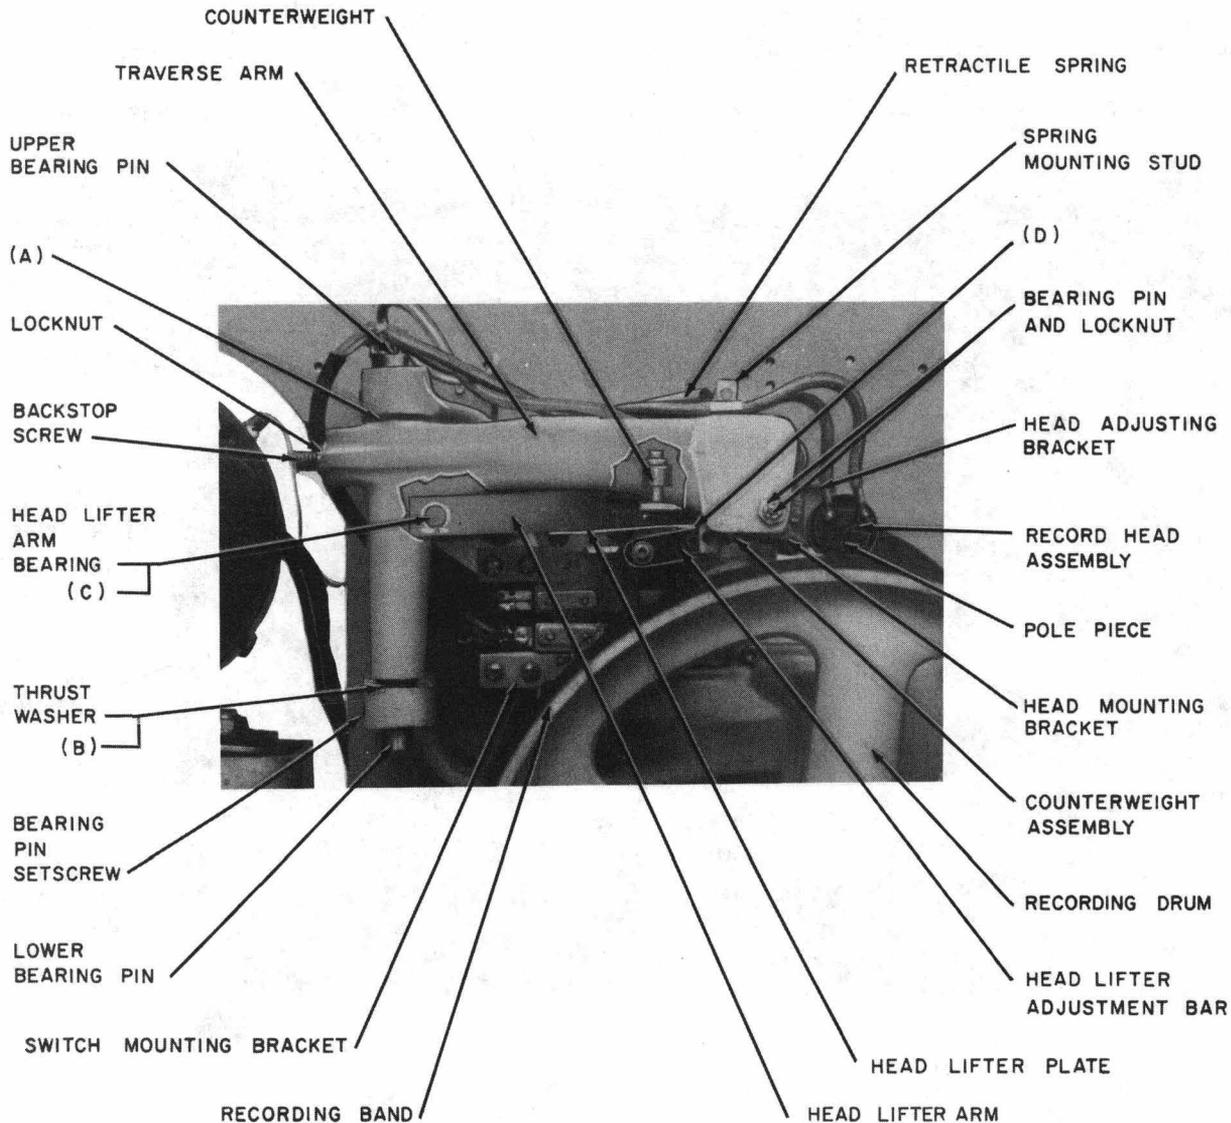

Fig. 3—Traverse Arm, Record Head, and Associated Parts
(5) Fig. 3(A) and (B) — One drop to each traverse arm pivot bearing.
(6) Fig. 3(C) — One drop to the pivot bearing of the head lifter arm between the plate and arm.
- (d) **Traverse Arm Pivot Bearing—Fig. 3(A) and (B):** One drop of KS-16326 L1 oil to each traverse arm pivot bearing.
- (e) **Head Lifter Arm Bearing—Fig. 3(C):** One drop of KS-16326 L1 oil to the pivot bearing of the head lifter arm between the plate and arm.